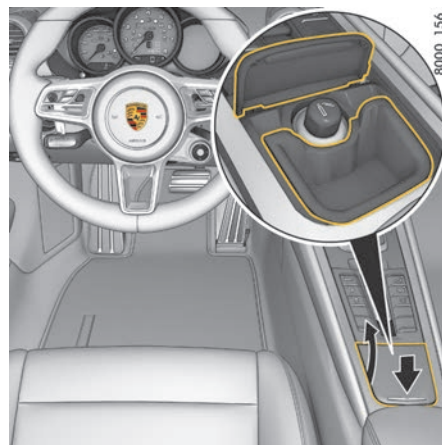

Fig. 196: Using the cigarette lighter
1. Press briefly on the ashtray lid (Fig. 196, **arrow**).